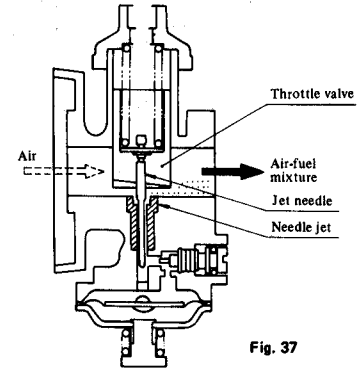

Fig. 37
- The air-fuel mixture supply rate to the combustion chamber is controlled by changing the opening of the throttle valve. That is, suction airflow is controlled by it and at the same time, the fuel flow rate injected out of the needle jet is metered by the jet needle which moves in the needle jet in accord with the opening of the throttle valve. Fig. 37 indicates the states of needle jet, throttle valve and air-fuel mixture.